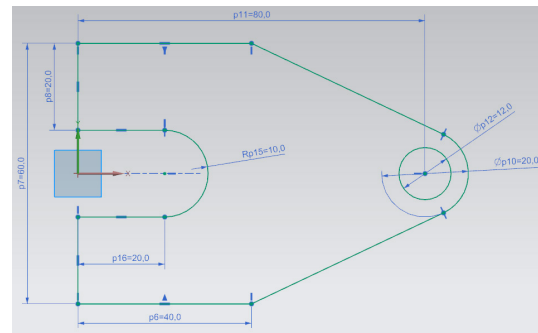

Figure 3-33 The final sketch after adding the required dimensions
1. Click on the line 7; a dynamic edit box is displayed. Modify the value of the dimension to **20** and press Enter. Next, drag and place the dimension below the line, refer to Figure 3-33.
6. Select the circle and place the dimension, refer to Figure 3-33. Next, modify the dimension value to 12 and press Enter. Make sure that the dimension value assigned to Line 1 is 40.
The final sketch after adding the required dimensions is shown in Figure 3-33.